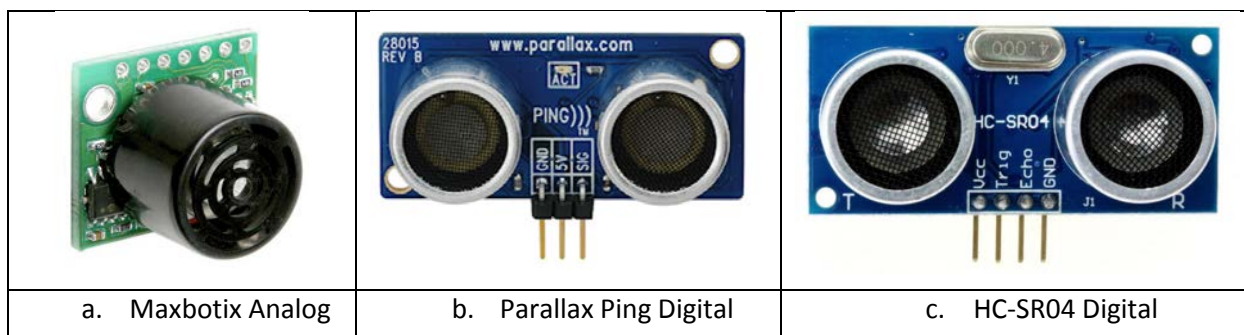

Figure 2: Sonar Sensors
1. Attach an analog sonar sensor to TK2 or mount a digital sensor to TKD1. See the “Arduino Robot Pin Table” in the Resources folder on Moodle for the proper way to address the pin in the sketch. If you use the 4-pin digital sensor you should tie the trigger and echo pins together. Figure 2 shows the various sonar sensors.